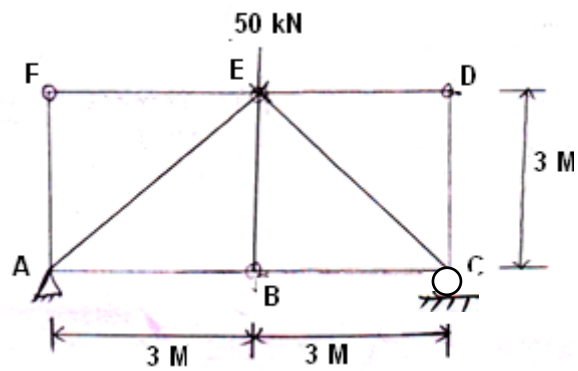

Fig. 17
Q.20	(a) Distinguish between perfect, redundant and deficit truss. (b) Calculate member forces in simply supported truss shown in fig. 17 .